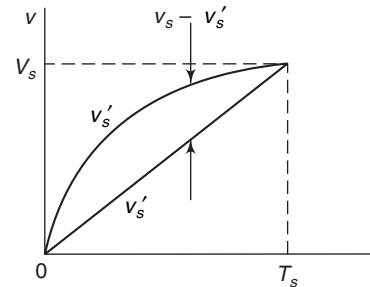

Fig. 8.34 Relating to the Definition of Displacement Error.
2. *The Displacement Error e_d* : In connection with other *timing applications*, a more important criterion of linearity is the *maximum difference between the actual sweep voltage and linear sweep which passes through the beginning and end points of the actual sweep*, as in Fig. 8.34.